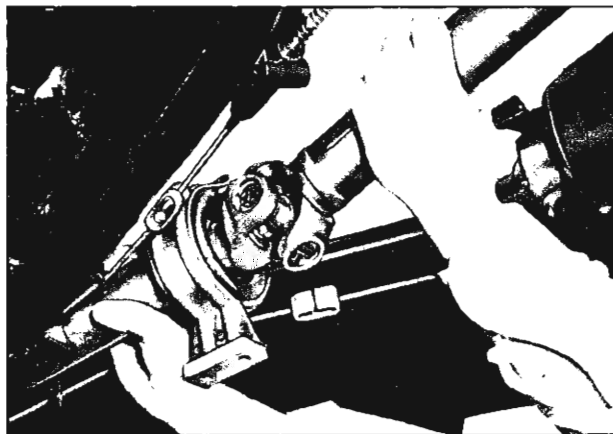

Fig. 55—Removing Propeller Shaft
3. Withdraw the propeller shaft and bearing assembly by moving it rearward and to the left passing under the axle housing assembly (fig. 55).